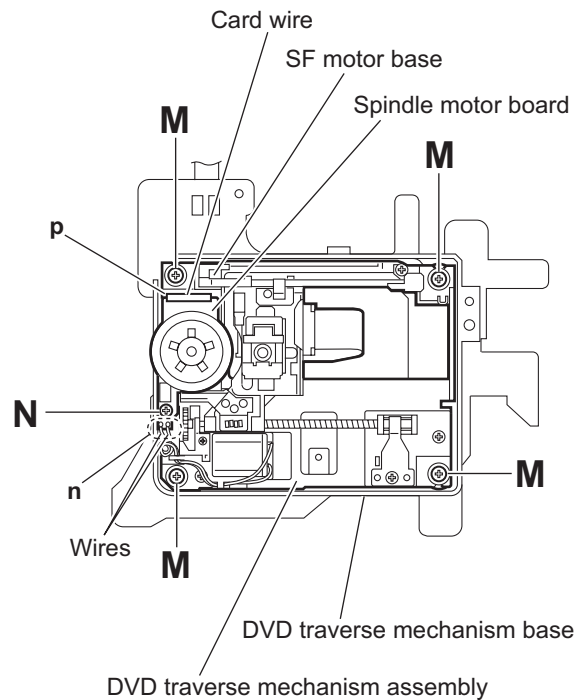

Fig.15
### 3.2.9 Removing the spindle motor board (See Figs.15 and 16)
- (1) From the top side of the DVD traverse mechanism assembly, remove the four screws **M** attaching the DVD traverse mechanism assembly to the DVD traverse mechanism base 3. (See Fig.15.)
- (2) Remove the wires from the soldered section **n** on the spindle motor board. (See Fig.15.)
- (3) Remove the screw **N** attaching the spindle motor board. (See Fig.15.)
When attaching the spindle motor board, let the card wire through the hole **p** on the SF motor base. (See Fig.15.)